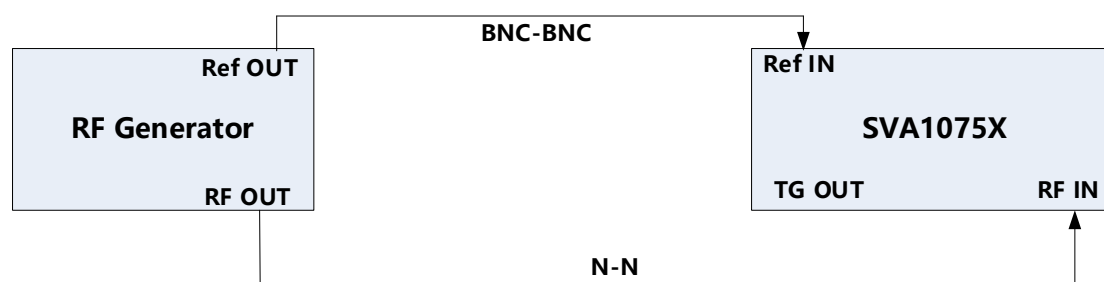

Figure 3-4 Phase noise verification connections
1. Connect the signal generator and spectrum analyzer as figure 3-4 shows